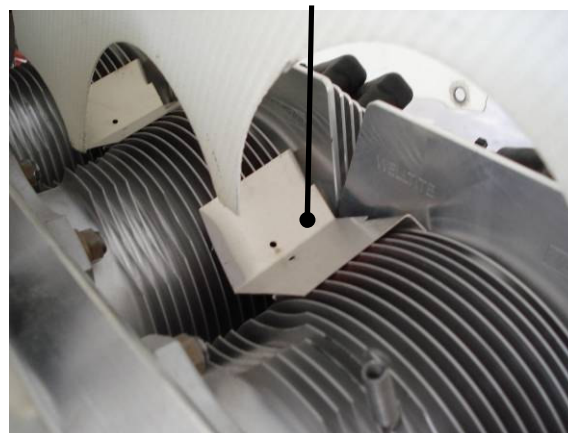

Figure 50. Front-On View Into Ram Air Duct
- Most of the time, air leaking through gaps instead of flowing through a cylinder head, oil cooler or similar is waste air – it does not transfer heat and does not cool the engine. Sometimes air leaking through controlled gaps – such as the holes in the front of the ram air ducts (Figure 50) or the gaps between cylinders – can have beneficial effects. However, it is recommended that gaps around the engine and oil cooler be closed as a starting point.